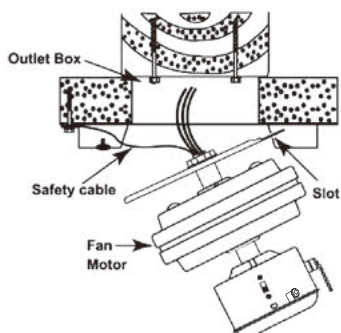

Figure 5
2. Carefully Lift the fan motor assembly (without the blades) and insert the T section of the motor housing plate into the slot in the mounting bracket as shown in Fig. 5.